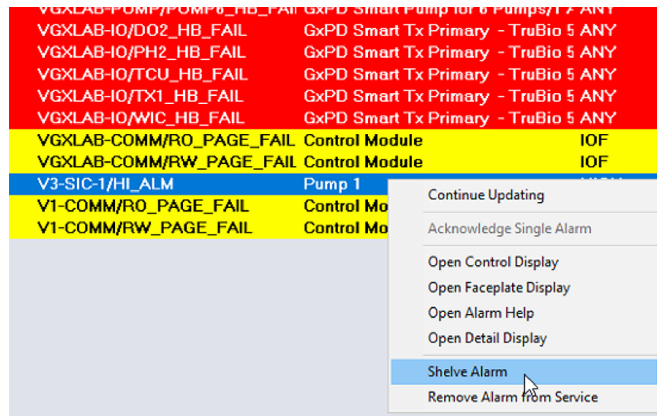

Figure 4.9. Shelve Alarm option in menu.
3. From the menu, select **Shelve Alarm** (Figure 4.9).